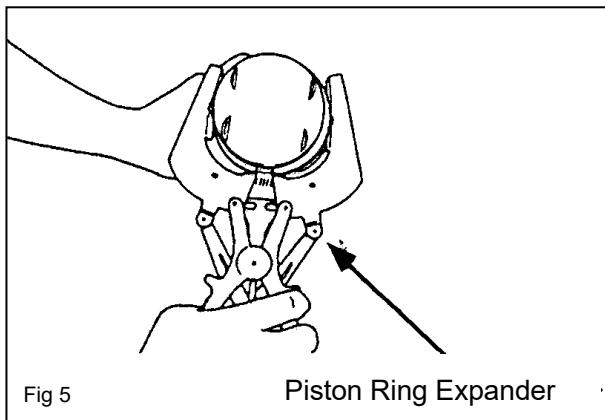

Fig 5
6.1 Install piston rings onto pistons using a piston ring expander. (Fig 5)